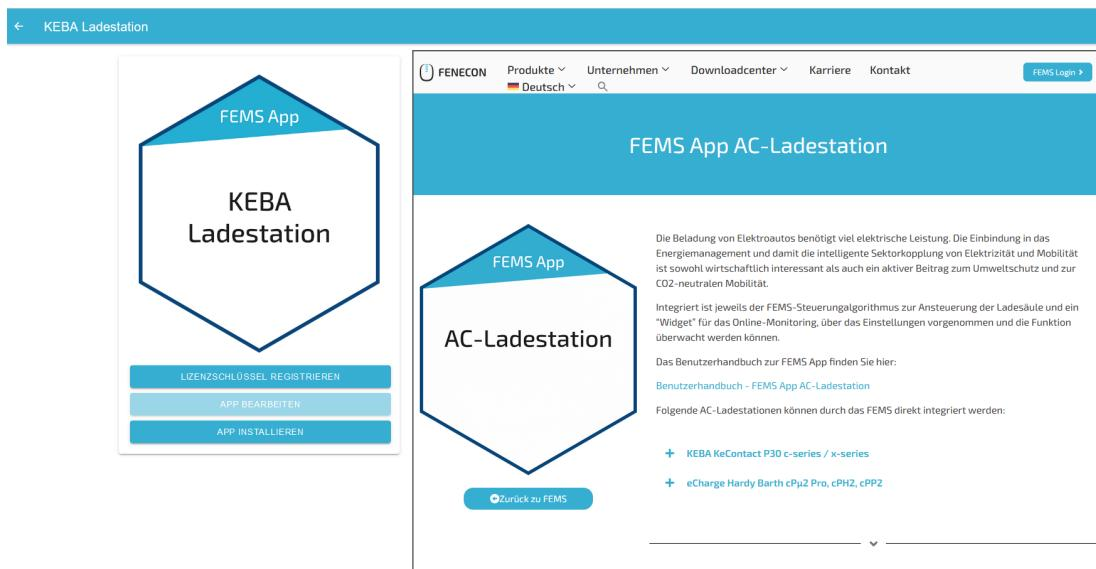

Figure 17. App installation — Variant 2: Step 3
- Figure 17. App installation — Variant 2: Step 3